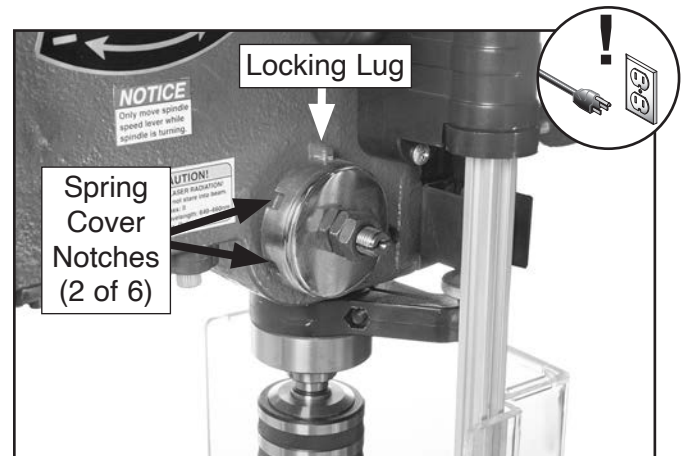

Figure 61. Location of spring cover notches and locking lug (T33960 shown).
6. Engage next available spring cover notch with locking lug (see **Figure 61**) and hold spring cover tightly to side of headstock.